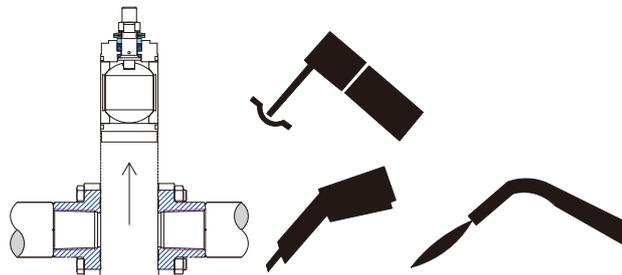

Fig.3 Welding for Fig.135
- With the ball valve open, disassemble the body from the spot welded connection ends and place the body in a clean and safe place (See Fig.3).